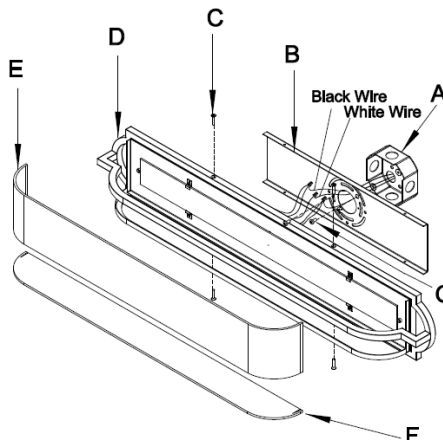

Fig.2
CONNECTING THE WIRES (FIG. 2)
5. At this point, connect the electrical wires as shown in Fig. 2, making sure that all wire connectors are secured. If your outlet has a ground wire (green or bare copper), connect the fixtures ground wire to it. Otherwise, connect the fixture ground wire directly to the mounting plate (B) using the green screw provided. After wires are connected, tuck them carefully inside the junction box.